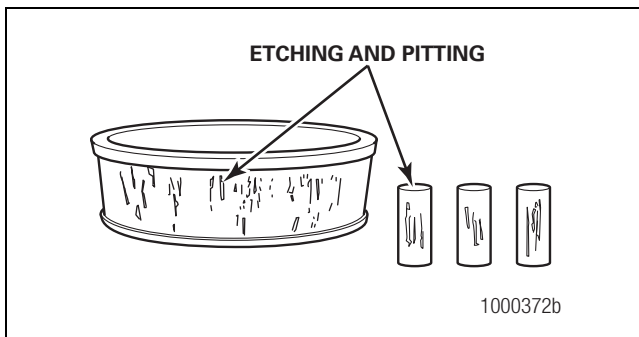

Figure 5.4
- There is damage on the rollers and on the surfaces of the cup and the cone inner race that touch the rollers. Figure 5.4.